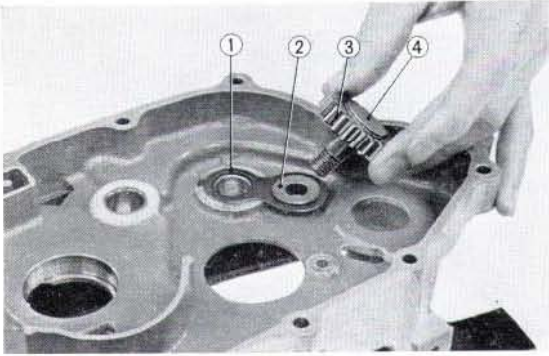

Fig. 2.42 ① Counter washer ② Idle gear collar ③ Starter idle gear ④ Idle gear shaft
1. Assemble the starter idle gear and shaft. (Fig. 2.42)